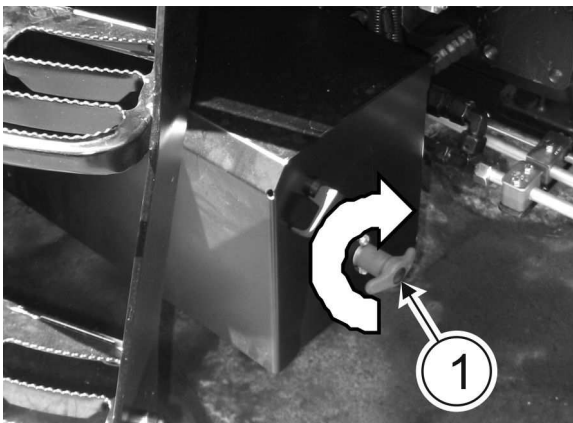
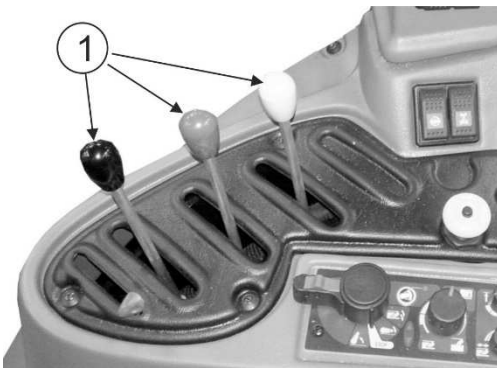

FIGURE 4.2 Battery switch outside the tractor, on the right side.
FIGURE 4.5 Control levers of tractor's external hydraulic system.
Do not stop engine at high temperatures of lubricating oil and coolant. It is recommended to leave engine running at lower revolution speeds until oil and coolant temperature drops. In order to stop the engine, shift the accelerator lever (**Figure 4.5**) to "minimum" position and turn the ignition key from position **1 (ON)** to position **0 (OFF)** (**Figure 3.17**) and, if work is completed, disconnect battery with battery switch (**Figure 4.2**). Indicator lamps on the dashboard should be extinguished.